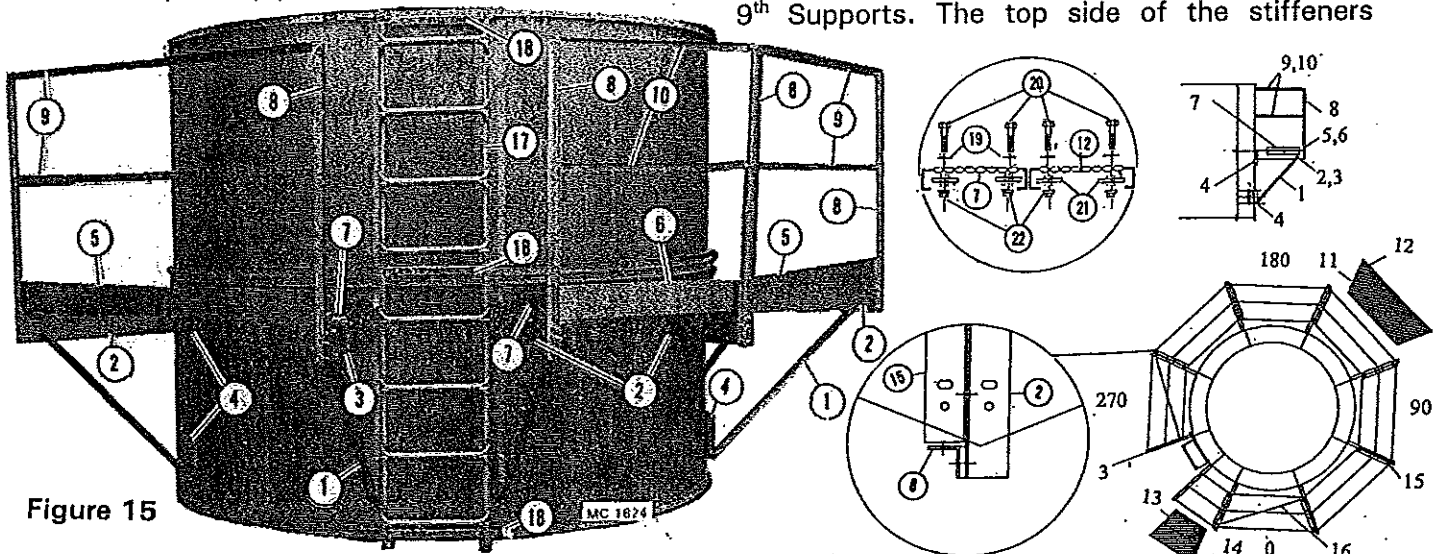

Figure 15
The 101275 is shipped in (7) sections: Base, (5) Double Screen Sections, and (1) Screen with Top Section. See Figure 15.